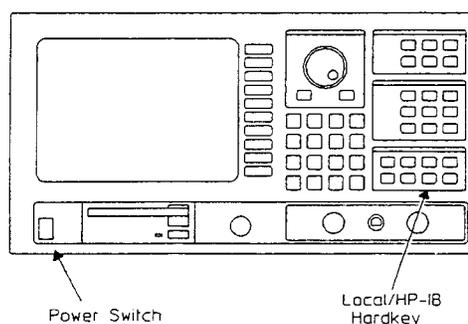

Figure 1-3. HP 3589A Front Panel
3. Turn on the HP 3589A. When the softkey labels appear, press the [**Local/HP-IB**] hardkey. (see figure 1-3)